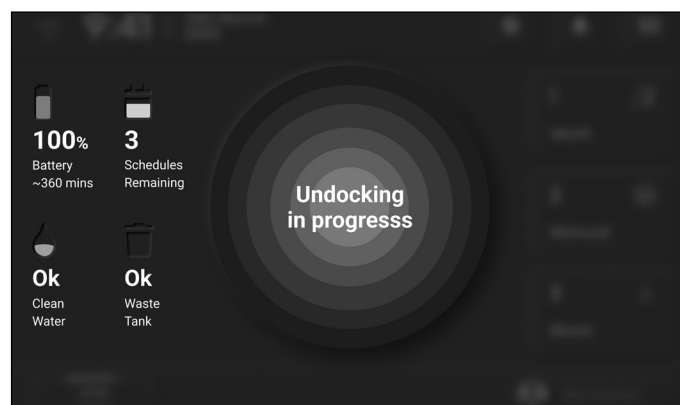

Figure 66
- The machine will proceed to undock (**Fig. 66**).